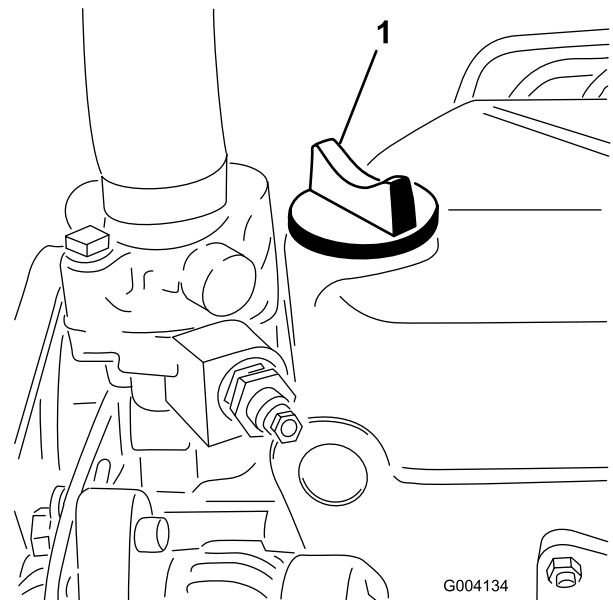

Figure 32
5. If the oil level is below the Full mark, remove the fill cap (Figure 32) and add oil until level reaches the Full mark on dipstick.